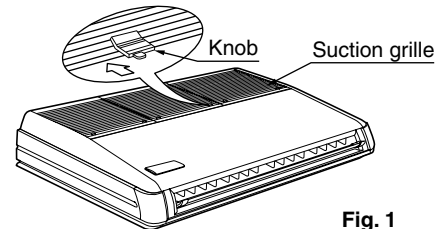

Fig. 1
**(1) Relation of holes for indoor unit, suspension bolt position, piping and wiring.**
**(2) Make holes for suspension bolts, refrigerant and drain pipe, and wire.**
**(3) Remove the parts from the indoor unit.**
- Slide the locking knobs (x2) on the suction grille inward (direction of arrows) and lift upwards. **(Refer to Fig. 1)**